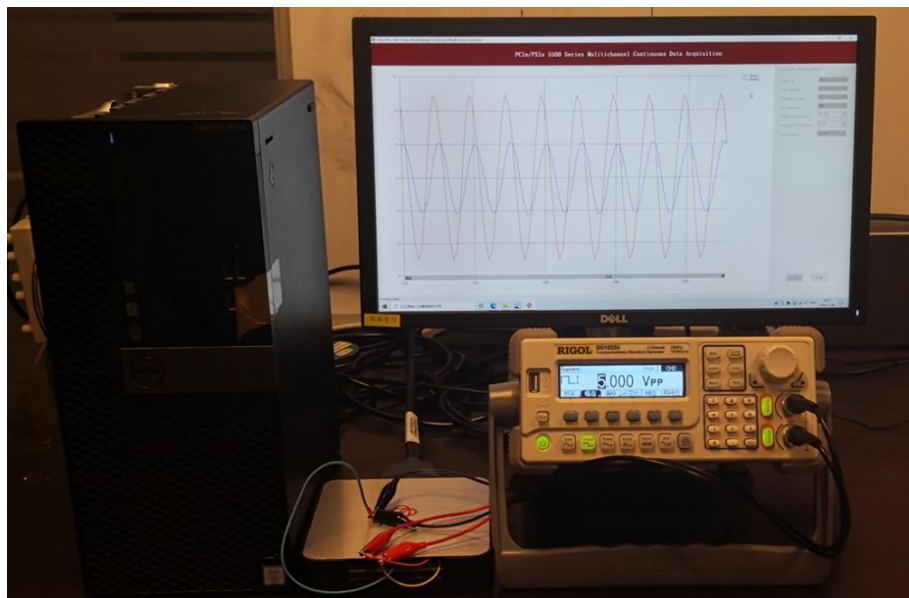
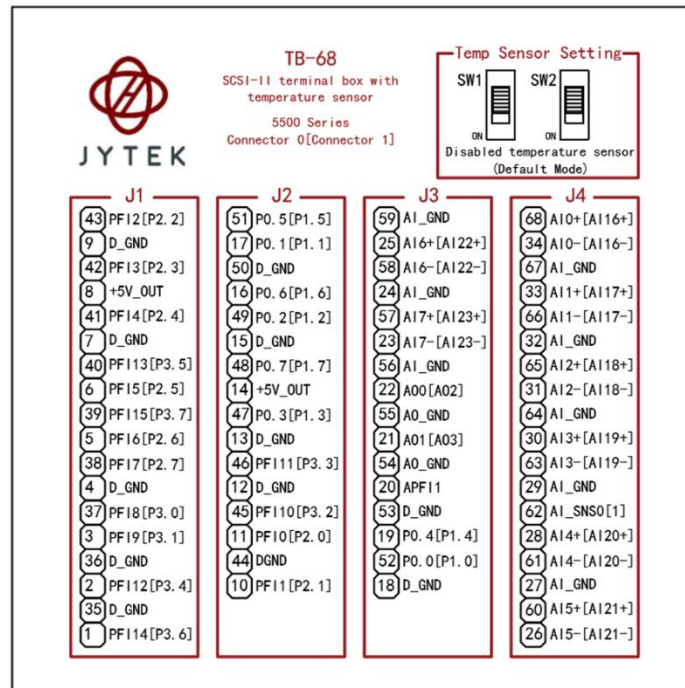

Figure 3 PCIe-5111B experiment
Figure 4 TB-68 Terminal Block
- Connect the two signal source's positive outputs to PCIe-5111B AI Ch0 (AI0+, Pin #68) and AI Ch1 (AI1+, Pin#33), two negative terminals to the ground (AI_GND, Pin#67) as shown in Figure 3 and Figure 4 (AI0+, AI_GND) and (AI1+, AI_GND) consist of two channels of RSE inputs and they share the same GND.
- Connect the two signal source's positive outputs to PCIe-5111B AI Ch0 (AI0+, Pin #68) and AI Ch1 (AI1+, Pin#33), two negative terminals to AI Ch0 negative (AI0-, Pin#34) and AI Ch1 negative (AI1-, Pin#66) as shown in Figure 3 and Figure 4. (AI0+, AI0-) and (AI1+, AI1-) consist of two pairs of DIFF inputs;
- This Example needs two TB-68 terminal blocks, Connector0 and Connector1 and two cables, which are connected to PCIe-5111B. Connect the two signal source's positive outputs to PCIe-5111B AI Ch0 (AI0+, Pin #68) and AI Ch1 (AI1+, Pin#33), two negative terminals to AI_SENSE 0 (Pin#62) of the first TB-68 and AI_SENSE 1 (Pin#62) of the second TB-68 as shown in Figure 3 and Figure 4. (AI0+, AI_SENSE 0) and (AI1+, AI_SENSE 1) consist of two channels of NRSE inputs.
- Connect the signal source's positive terminal to PCIe-5111B AI Ch0 (AI0+, Pin#68), the negative terminal to the ground (AI_GND, Pin#67) as shown in Figure 3 and Figure 4. (AI0+, AI_GND) consists of a RSE input.